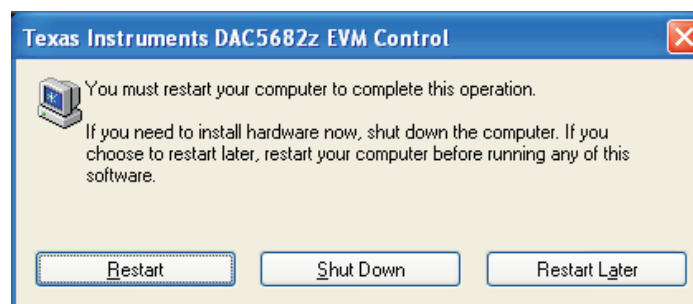

Figure 10. Restart PC Necessary
6. Click *Restart* (Figure 10) to finish the installation.